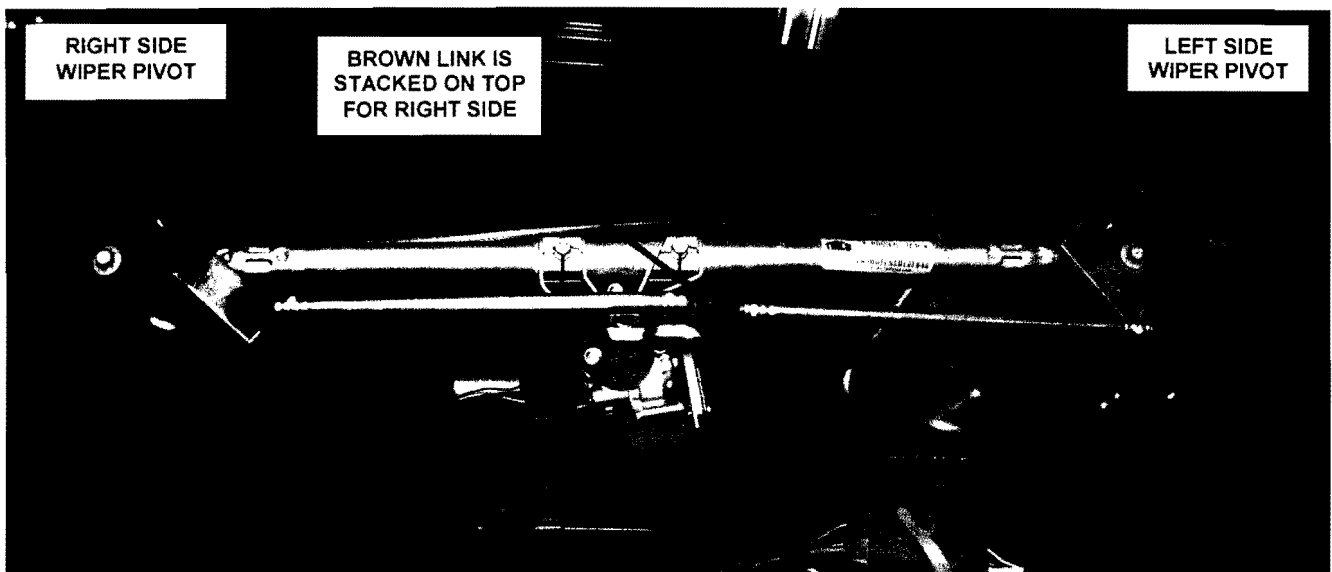

Figure 6 – Correctly Installed Wiper Linkage
- f. Snap the plastic linkage links onto the wiper pivots (Figure 6).
**CAUTION:** The linkage can be installed backwards. Reference Figure 6 and 7 to ensure linkage is installed correctly.